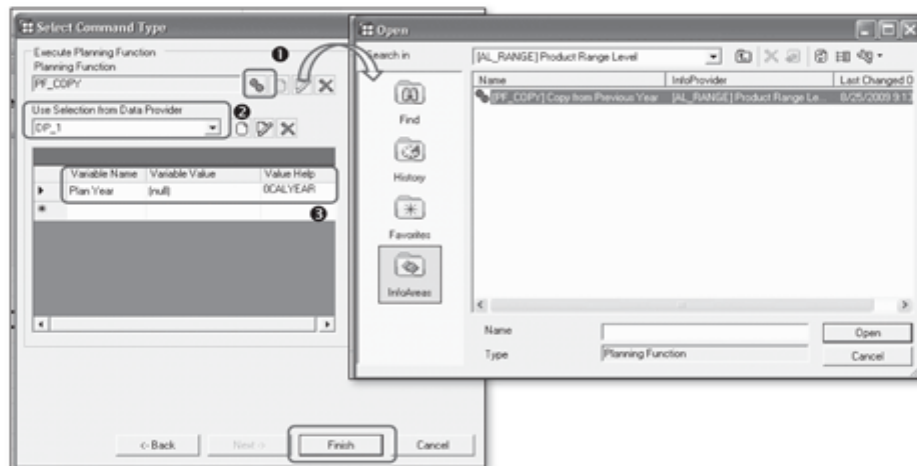

Figure 12.83 Select Planning Function
10. On the next screen, first select the planning function and the data provider on which the planning function has to be executed. Select the planning function that needs to be assigned to the button, as shown in ❶ of Figure 12.83. Also select the data provider from the dropdown list on which the selected planning function should be executed; alternatively, you can create a new one if needed